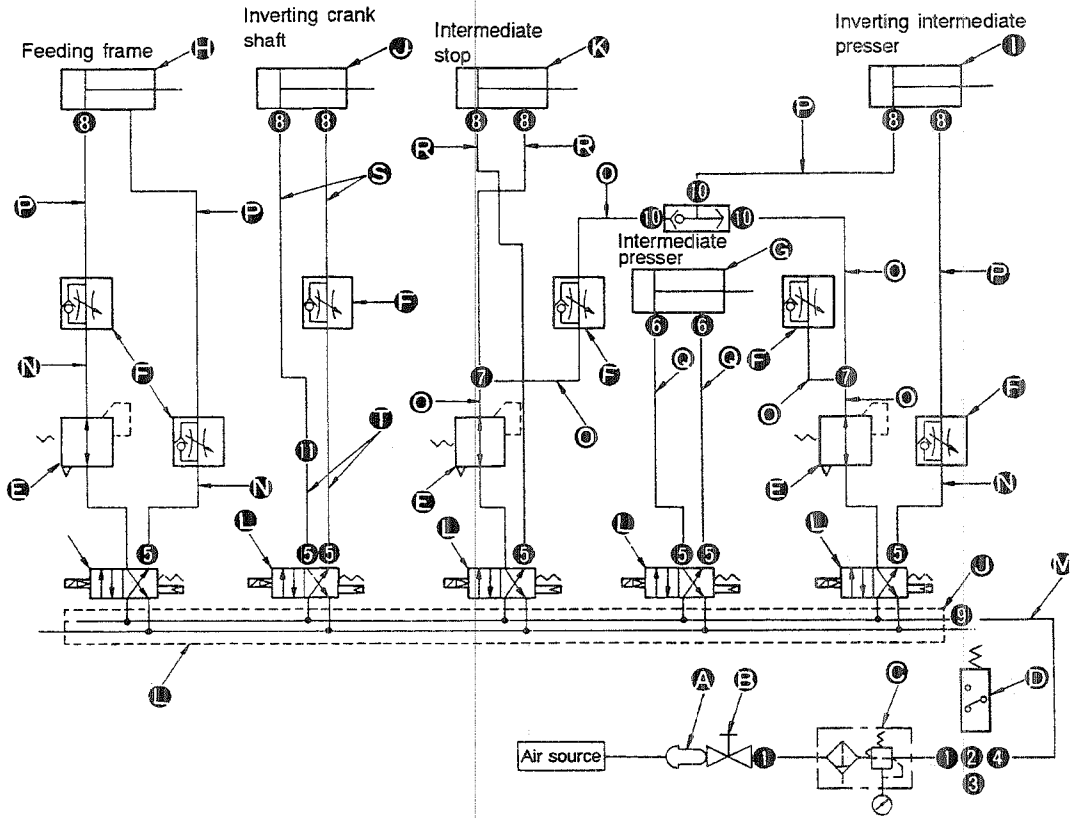

Fig. 4-10-1
<ul style="list-style-type: none"> o Connect the pneumatic components properly referring to the schematic diagram (Fig. 4-10-1) and Disassembly/assembly procedure (16). * "(42) Connecting the pneumatic components" of Chapter 1 (S type) describes how to read the schematic diagram. So, refer to the description given there, if necessary. 	<ul style="list-style-type: none"> o Malfunction of the feeding frame components and intermediate presser components may occur, resulting in machine failure or giving damages to the related components.